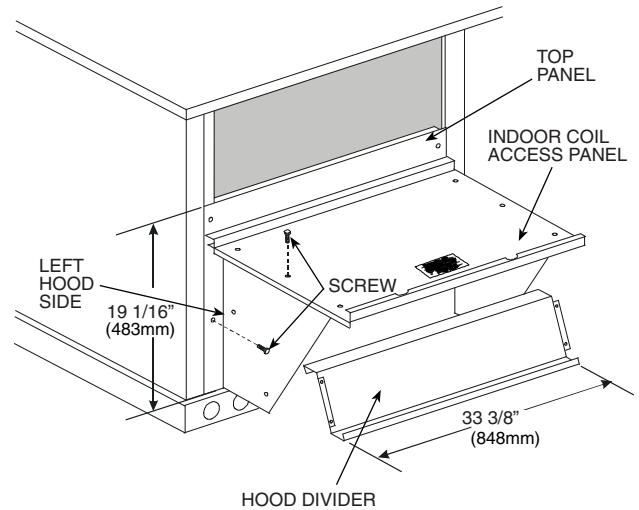

Fig. 25 — Economizer Hood Construction (Size 07-14 Shown)
2. Swing out indoor coil access panel and insert the hood sides under the panel (hood top). Use the screws provided to attach the hood sides to the hood top. Use screws provided to attach the hood sides to the unit. See Fig. 25.
4. Insert the hood divider between the hood sides. See Fig. 25 and 26. Secure hood divider with 2 screws on each hood side. The hood divider is also used as the bottom filter rack for the aluminum filter.